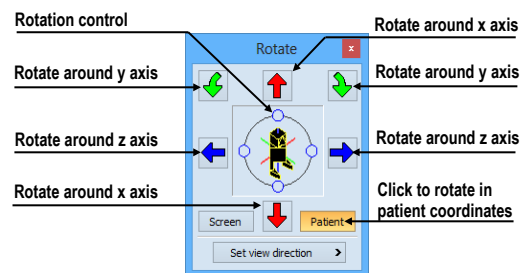

Figure 305 – Rotate tool (Patient mode)
- rotation in patient coordinates (see Figure 305)